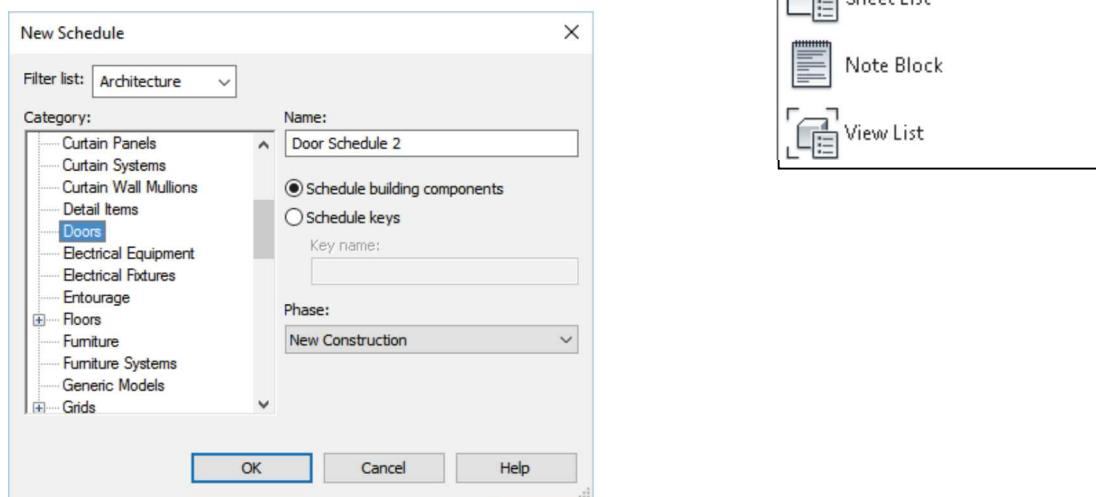

FIGURE 13-2.1 New Schedule dialog
3. Select **Doors** under *Category* and then click **OK** (Figure 13-2.1).